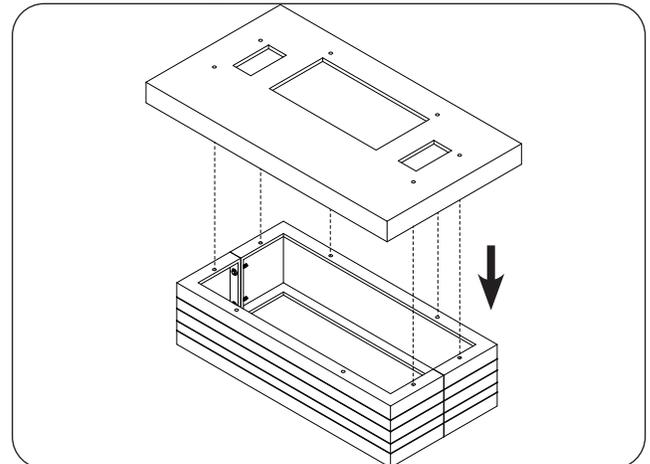

Fig. 20-3 Place shelf
1. Place the shelf piece on top of the hearth. Carefully align the pilot holes. See Fig. 20-3.